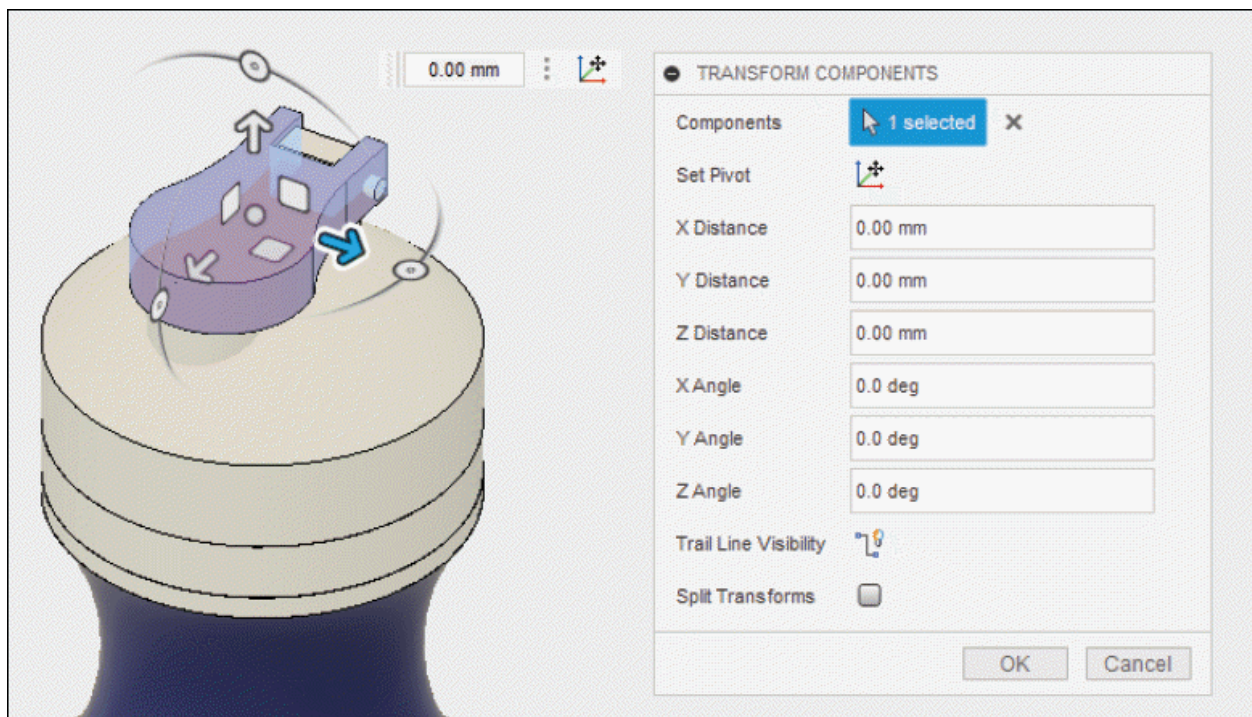

Figure-37. Manipulator on selected component
- The **Select** button of **Components** section is active by default. Click on the component that you want to move or rotate. On selection of component, a manipulator will be displayed on the selected component along with updated **TRANSFORM COMPONENTS** dialog box; refer to Figure-37.